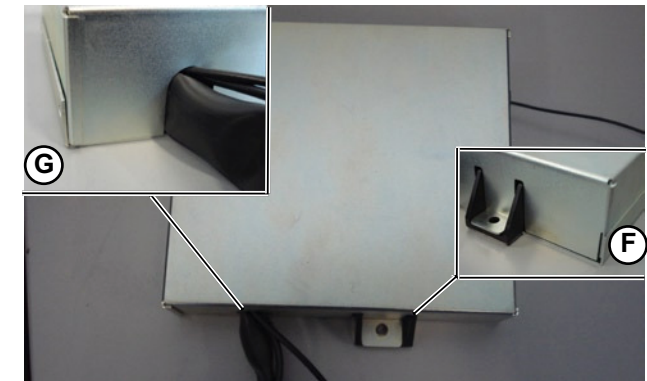

Fig.21
34. Using the top part of the metal cage (**6-Fig.1**), close the VTS ECU (with all harnesses connected) into its metal protection cage as shown in the picture beside (**Fig.21**). The picture beside (**F-Fig.21**) shows also how the bottom part and the top one have to be perfectly jammed between them. The harnesses connected at the VTS ECU have to come out through the special hole (**G-Fig.21**) present in the side of the metal protection cage.